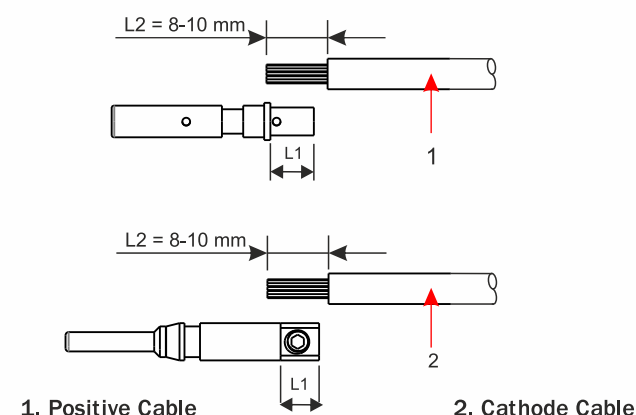

Fig. 6.6 Connecting Cables
3. Feed the positive and cathode cables into corresponding lock screws as shown fig 6.6.